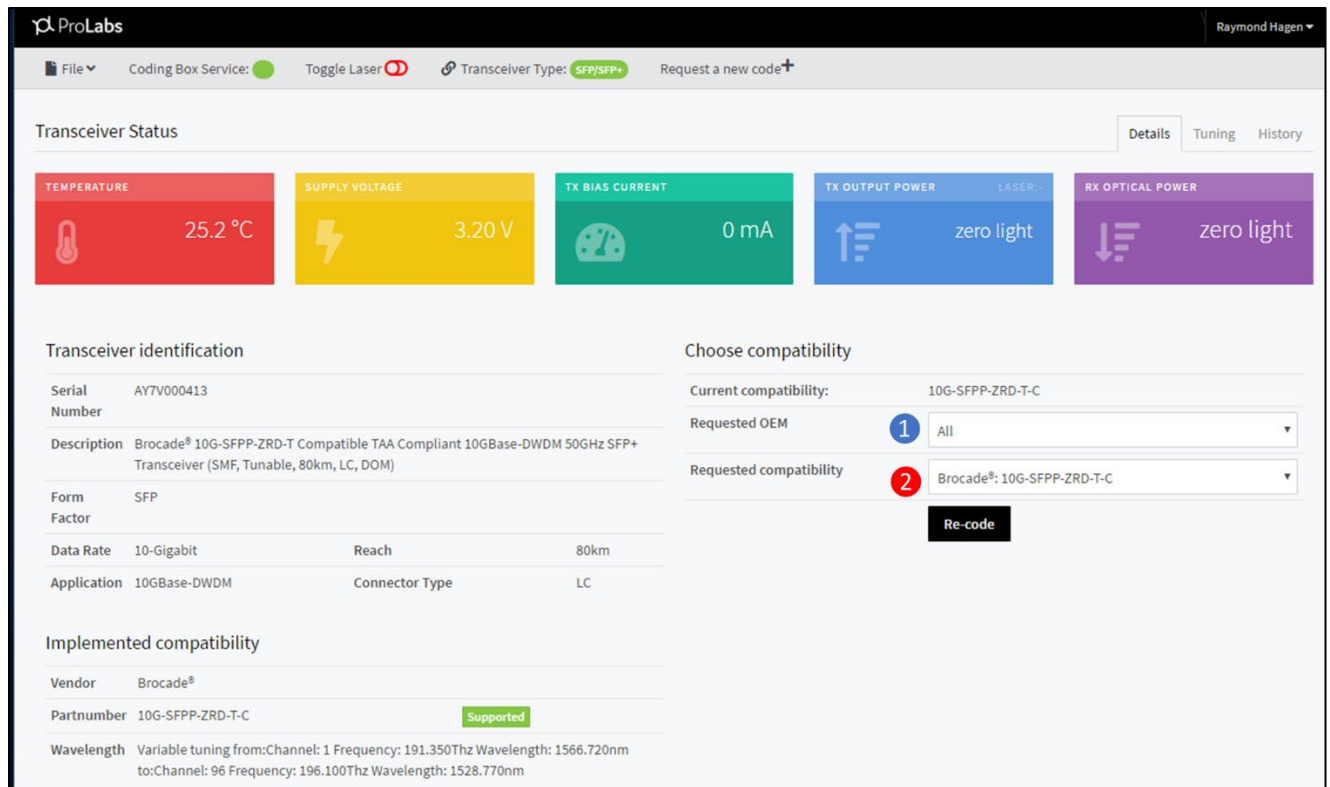

Figure 12 – Coding a Tunable Optic
- 2) Filter the “Requested OEM” and “Requested Compatibility” from the drop-down menus. See Figure 12.